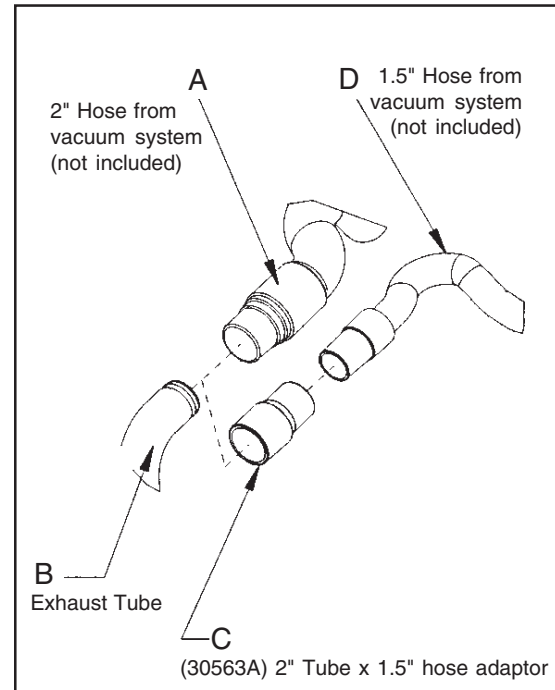

Figure 4
1. Install 2" hose end (figure 4, A) directly into the exhaust tube (figure 4, B).
1. Install the 2" x 1 ½" hose end adaptor (Part No. 30563A) (figure 4, C) over the exhaust tube (figure 4, B).
2. Insert 1 ½" hose end (figure 4, D) into the adaptor (figure 4, C).